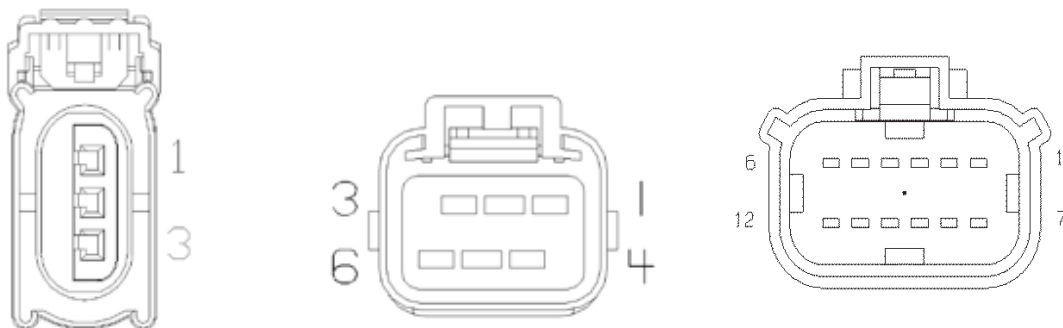

Figure 19
- A. Determine the style of connector you have by pulling out the tail lights and examining the tail light plugs. Notice the color of the wires and use positions 2 and 3 (left), 1 and 6 (middle), or 1 and 12 (right).(fig. 19).